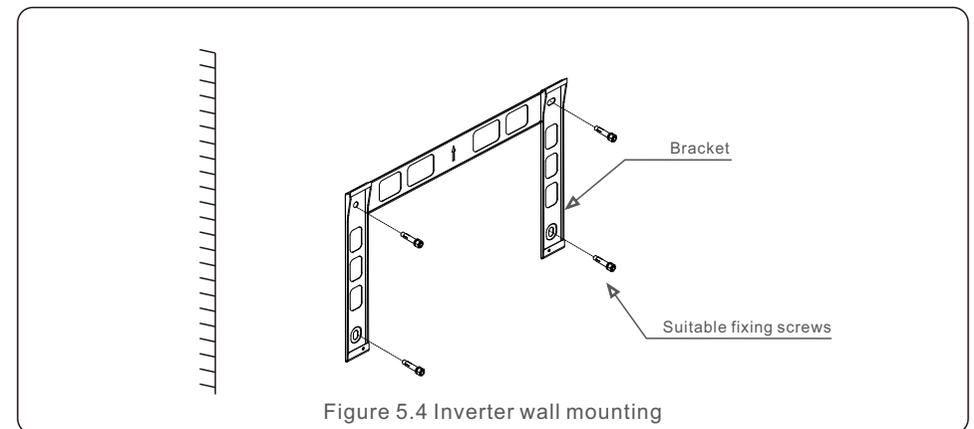
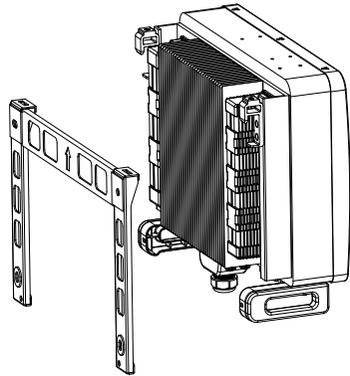

Figure 5.4 Inverter wall mounting
Figure 5.5 Install the inverter
Refer to figure 5.4 and figure 5.5. Inverter shall be installed vertically. The steps to install the inverter are listed below.
1. Refer to Figure 5.4, use the bracket as a template and drill the four holes accordingly. (Diameter=10mm, Depth=60mm).